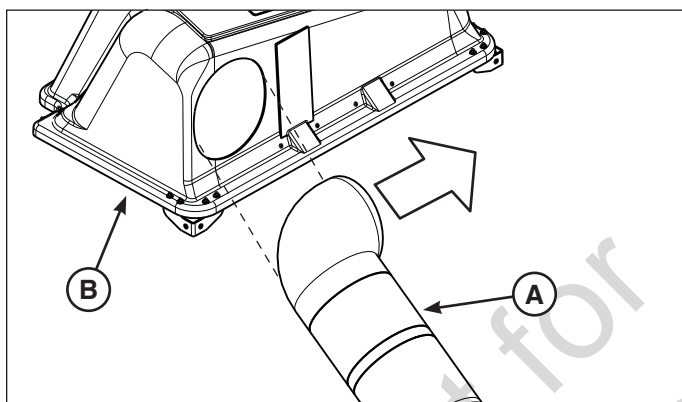

Figure 9 (Rider and components removed for clarity)
1. Insert the upper tube (A, Figure 9) into the opening in the catcher cover (B) as shown, making sure the discharge is directed toward the left side of the unit.